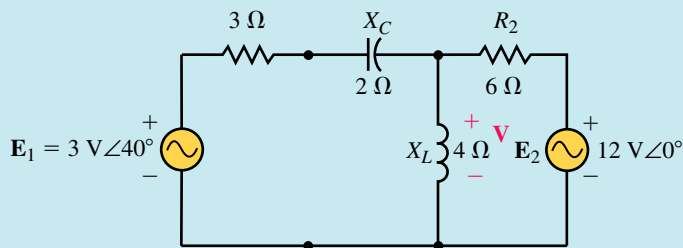

FIGURE 19-16
Step 1: Converting the current source into an equivalent voltage source gives us the circuit of Figure 19-16.